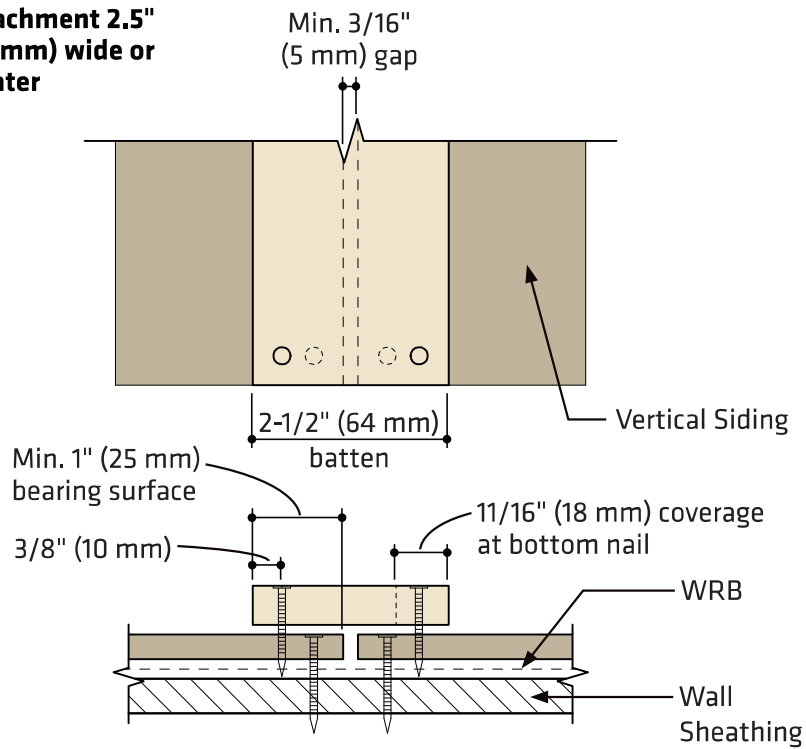

Figure 4a
- Vertical Siding must be spaced a minimum of 3/16 inch (5 mm). *(See Figure 4a & 4b)*
- Length = fastener shall be long enough to fully penetrate Vertical Siding by at least 1/4 inch (6 mm) *(See Figure 4a & 4b)*